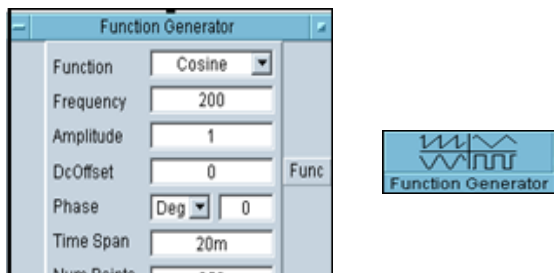

Figure 1-13 The Function Generator Open View and Icon View
- 2 Click the dot on the right end of the title bar - its icon "minimize" button. The Function Generator object converts to its Icon View. See Figure 1-13.